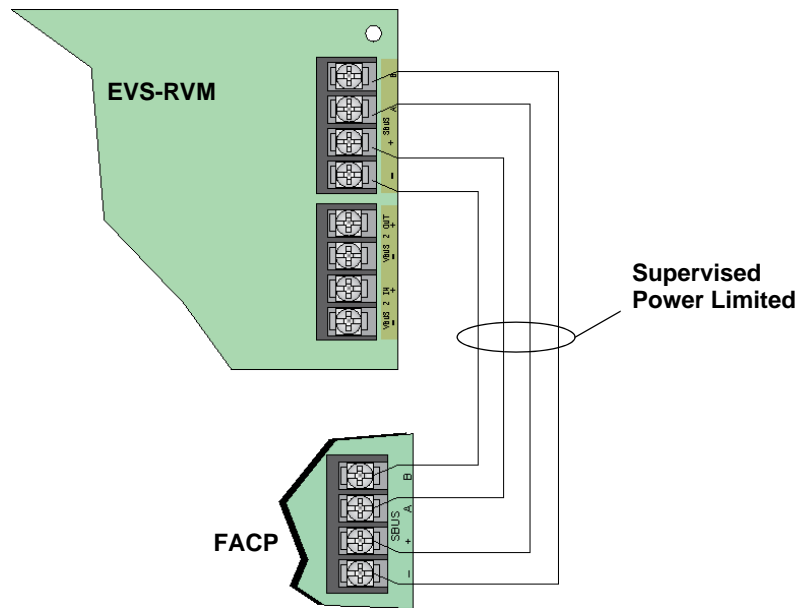

Figure 4-51 SBUS Connections
1. Refer to Figure 4-51 to properly connect the EVS-RVM to the FACPs SBUS.
2. Disconnect the SBUS connections from the SBUS terminals on the EVS-RVM. See Figure 4-51.